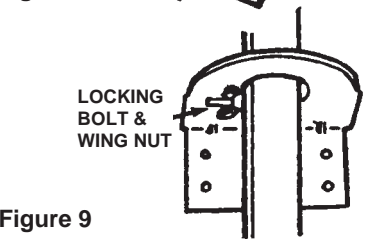

Figure 9
**To Lower Antenna to Travel Position:** Rotate antenna until elements are on side facing vehicle. Remove locking bolt and wing nut, slide antenna down thru mast brackets until VHF element rests on storage brackets. Replace locking bolt in top hole below bottom mast bracket and secure bolt and wing nut. See Figure 9.